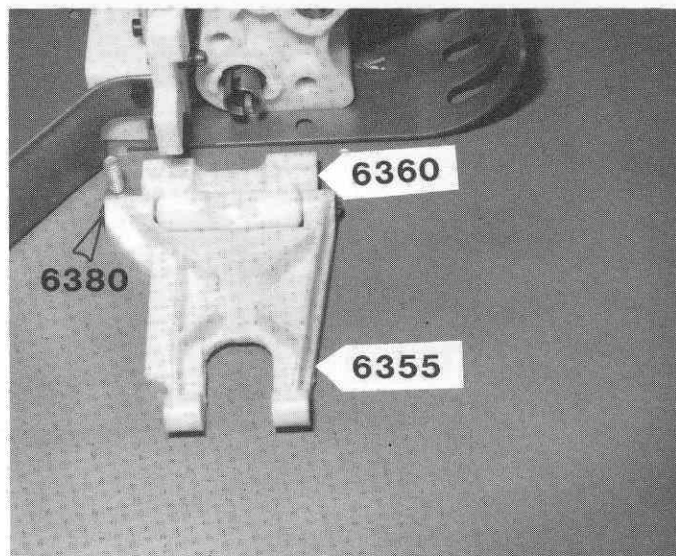

Fig. 107
□ **Fig. 107** Take the #6360 rear suspension mount, out of bag #6-8, with the letter "L" on the bottom, the #6355 L.H. rear "A" arm and the #6380 inner hinge pin. Line up the holes in the arm and mount and install the pin. Install the 2 "E" clips.